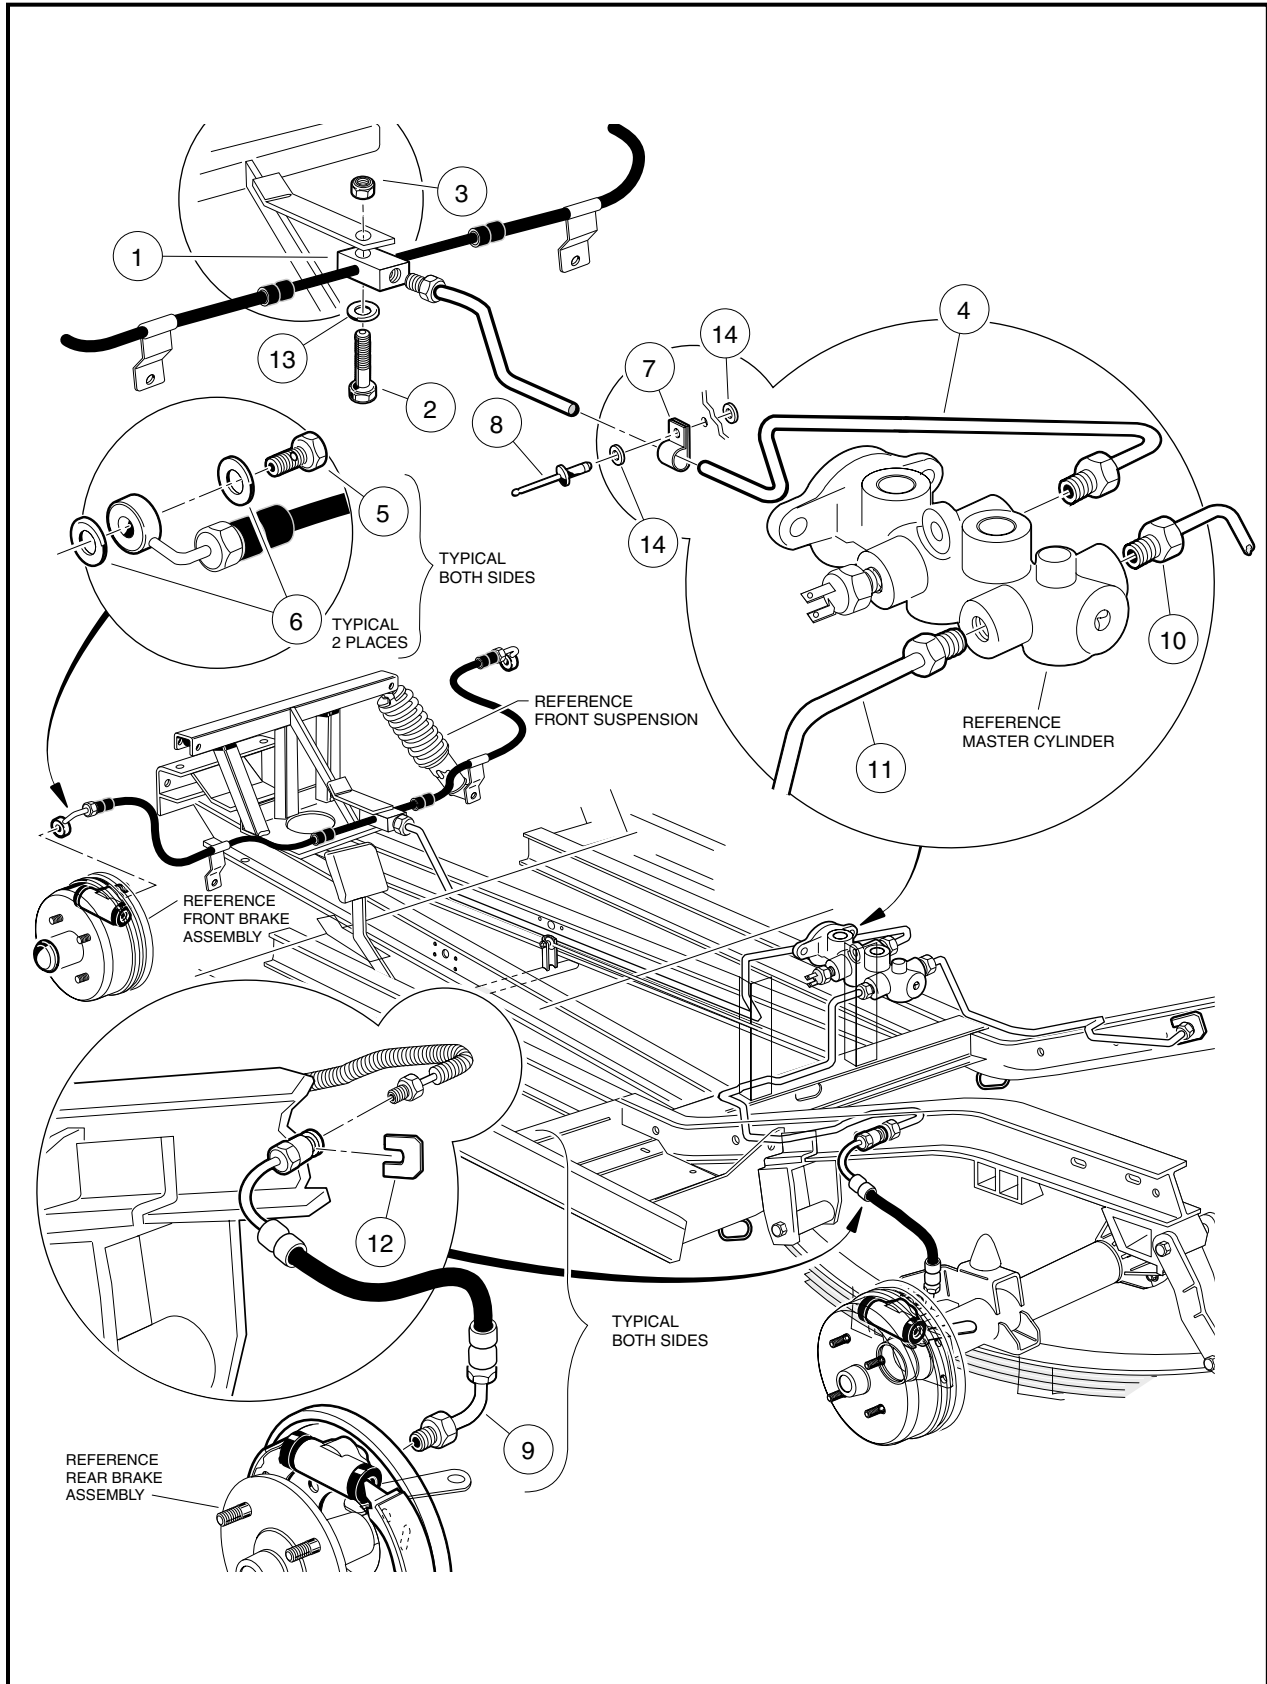

Figure 6a-22 Four-Wheel Hydraulic Brake System
5. Using a 3/8-inch flare nut wrench, remove brake line (4) from the T-manifold block (1) (**Figure 6a-22, Page 6a-29**).
1. Connect the 7/16-inch flare nut of the brake line (4) to the master cylinder and tighten finger-tight (**Figure 6a-22, Page 6a-29**).
2. Connect the 3/8-inch flare nut of the brake line (4) to the T-manifold block (1) and tighten finger-tight (**Figure 6a-22, Page 6a-29**).
3. Secure the brake line to the vehicle frame with the P-clamp (7), using new 3/6 x 3/4-inch aluminum pop rivet (8) and two 3/16-inch rivet washers (14) (**Figure 6a-22, Page 6a-29**).
4. Using a 7/16-inch flare nut wrench, tighten the flare nut from the brake line (4) to the master cylinder to 11 ft-lb (14.9 N·m) (**Figure 6a-22, Page 6a-29**).
5. Using a 3/8-inch flare nut wrench, tighten the flare nut from the brake line (4) to the T-manifold block (1) to 11 ft-lb (14.9 N·m) (**Figure 6a-22, Page 6a-29**).
**NOTE:** If either of the two front brake hoses or the T-manifold block (1) are found to be damaged, the entire assembly must be replaced (**Figure 6a-22, Page 6a-29**).
3. Remove the banjo bolt (16) and two copper washers (17) from each of the front brake wheel cylinder assemblies (**Figure 6a-3, Page 6a-4**). Discard the copper washers (17).
5. Using a 3/8-inch flare nut wrench, remove the brake line (4) from the T-manifold block (1) (**Figure 6a-22, Page 6a-29**).
6. Remove the bolt (2), washer (13) and lock nut (3) that secure the T-manifold block (1) to the shock tower and remove the front brake hose assembly (**Figure 6a-22, Page 6a-29**).
1. Install the 1/4-20 x 1-1/4-inch hex-head bolt (2) through washer (13) and through the T-manifold block (1) and frame bracket. Install and tighten the nylon lock nut (3) to 76 in-lb (8.6 N·m) (**Figure 6a-22, Page 6a-29**).
2. Connect the brake hose assemblies to each of the front brake wheel cylinders, using new copper washers (17) and banjo bolts (16). Position the elbow of each hose toward the rear of the vehicle. Tighten bolts to 13 ft.-lb (17.6 N·m) (**Figure 6a-3, Page 6a-4**).
4. Using a 3/8-inch flare nut wrench, connect the flare fitting on the front brake line (4) to the T-manifold block (1). Tighten to 11 ft-lb (14.9 N·m) (**Figure 6a-22, Page 6a-29**).
3. Using a 3/8-inch flare nut wrench, remove brake line (10 or 11) from the master cylinder (**Figure 6a-22, Page 6a-29**).
4. Using a 3/8-inch flare nut wrench, remove the same brake line (10 or 11) from the rear brake hose at the I-beam of the vehicle frame and remove from the vehicle (**Figure 6a-22, Page 6a-29**).
1. Using a 3/8-inch flare nut wrench, install brake line (10 or 11) to rear brake hose at the I-beam of the vehicle frame (**Figure 6a-22, Page 6a-29**). Tighten to 11 ft-lb (14.9 N·m).
2. Using a 3/8-inch flare nut wrench, install the opposite end of the brake line to the master cylinder. Tighten the flare nut fitting to 11 ft-lb (14.9 N·m) (**Figure 6a-22, Page 6a-29**).